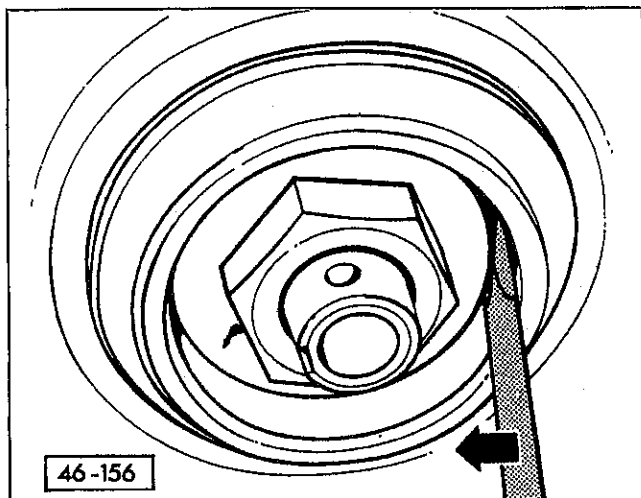

Fig. 9. Wheel bearing adjustment being checked. Axle nut is tightened correctly when thrust washer moves only with slight pressure.
5. While rotating the disc/drum, tighten the axle nut slowly in small increments until the thrust washer can just barely be moved back and forth with a light push on the tip of a screwdriver (do not pry or twist screwdriver). See Fig. 9.